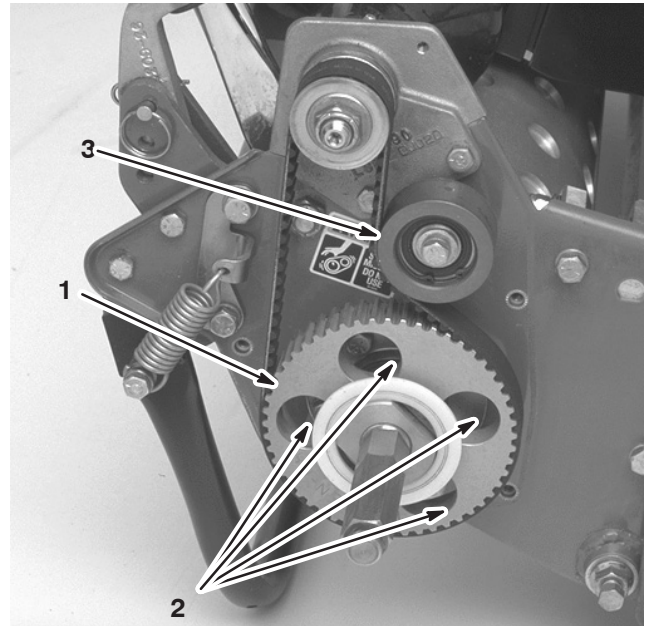

Figure 9
7. Rotate the drive pulley until the holes align with the 4 roller bearing flange screws (Fig. 9).
11. Adjust the belt tension and tighten the idler pulley mounting screw (Fig. 9).